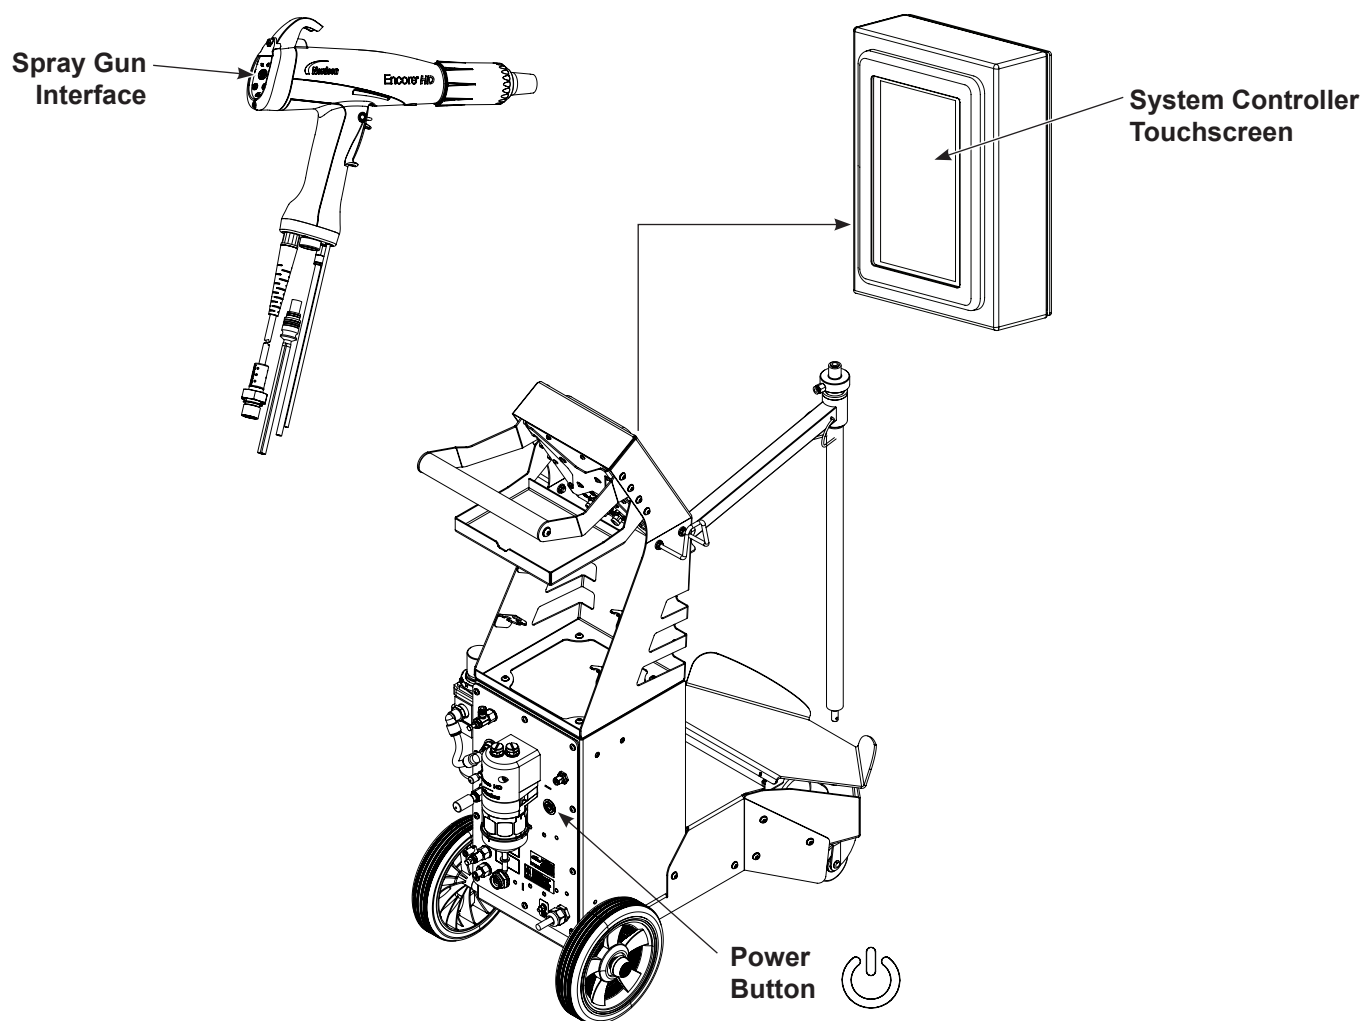

Figure 4-3 System Controls
4. See Figure 4-3. Make sure the spray gun is not triggered, then turn ON system controller power . The system controller touchscreen and gun interface should light.